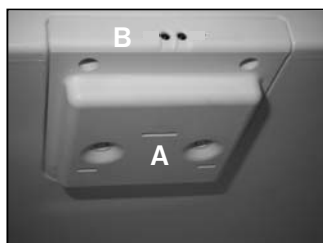
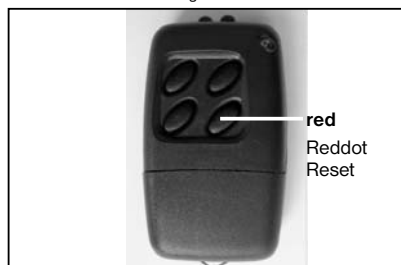

Figure 6.
Figure 9.
The control system checks the function after every defrosting period (first defrosting phase commences 39 hours after the start, then later every 24 hours) by measuring the evaporator temperature drop. If it registers a problem the refrigerator will shut down and the LEDs of the interior light will begin to flash continuously. If this happens in many cases this is due to an overloading of the fridge (too many warm foods and/or drinks in), or the door was not properly closed, or the cooling unit ventilation is not correct and/or a refrigerator is not levelled. Please check and after that reset the refrigerator by using the remote control Fig 9.) against the door opening sensor (Fig 6. B) and push the "black" button, or unplug the refrigerator at least for 10 seconds and plug it in again. This resets the unit and it will function again. If the continuous flashing comes back than there is a real problem with the cooling unit and you should contact the Dometic service.
### 6.1.1. Interior LED light (Fig. 6.) (cooled compartment)
2. Reset the door control signal by holding the Remote control (Fig. 9.) against the door opening sensor (Fig. 6. B) and push the "red" button.